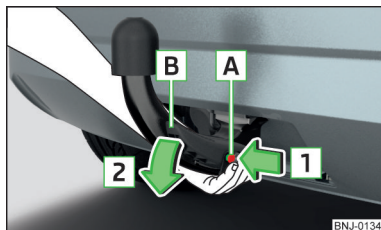

Fig. 252
- › Grasp the tow bar from **below** » Fig. 252.